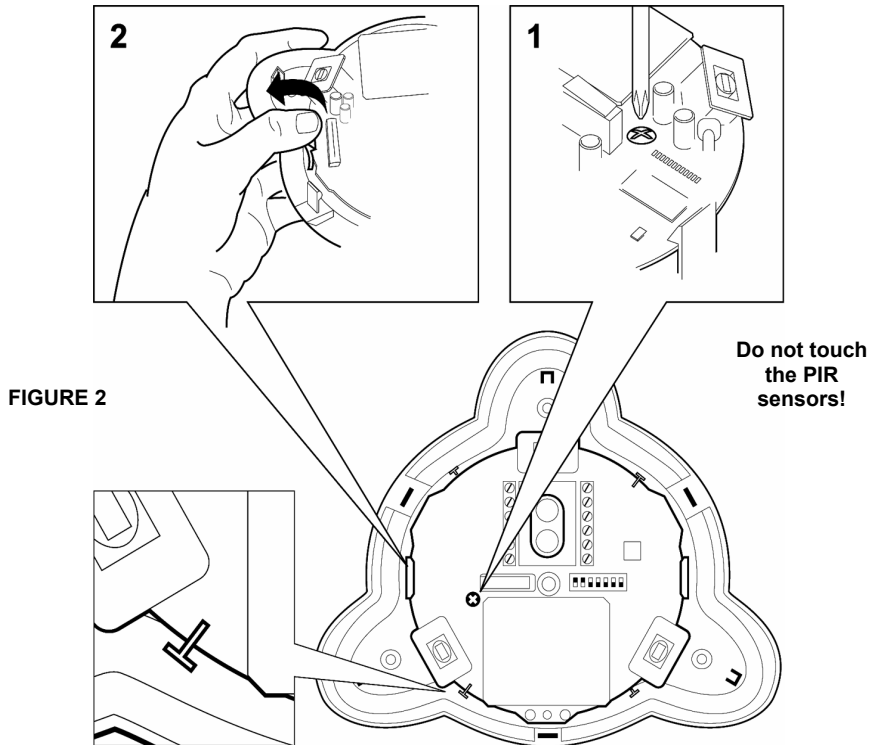

FIGURE 2
Release the PCB holding screw (**Figure 2**) located on the right hand side of the PCB (1), pull gently the two release clips (2) outward and remove the PCB.